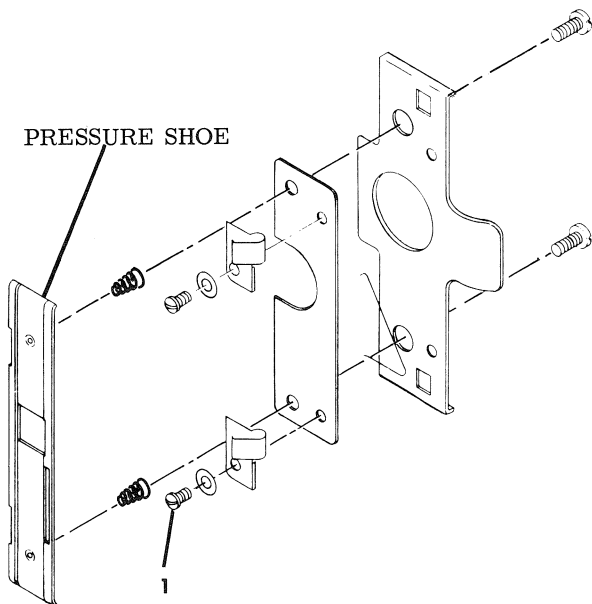

Figure 3-34. FILM PRESSURE SHOE
3. Film Pressure Shoe (Figure 3-34)